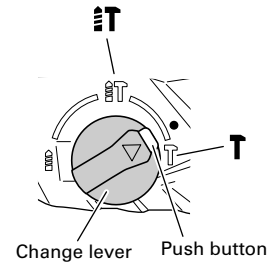

Fig. 12
(1) Mount the bull point or cold chisel.
(2) Press the push button and set the change lever to middle of **T** mark and **T** mark (Fig. 12).